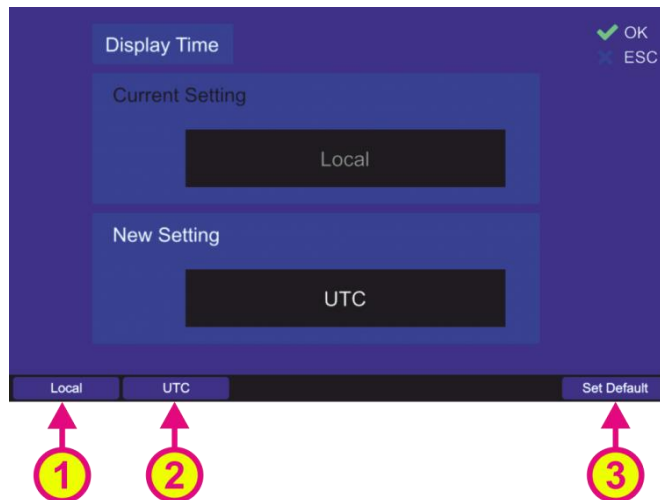

Fig. 136 Changing the "Display Time" setting
- Choose the "Local" or "UTC" hotkey to set the desired variant of the time indication (s. Fig. 136, positions 1 or 2).
- Use the "Set Default" hotkey (s. Fig. 136, position 3) to reset the value to the default value (Local).